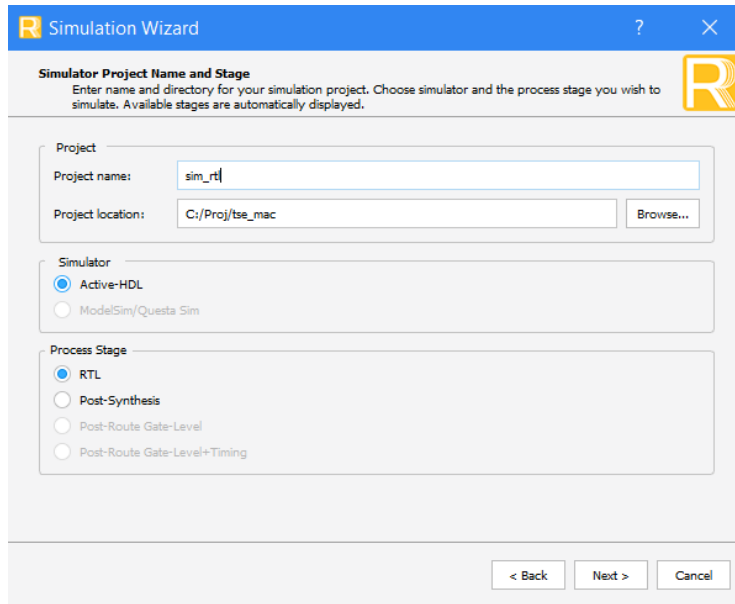

Figure 3-4. Simulation Wizard
1. Click the  button located on the **Toolbar** to initiate the **Simulation Wizard** shown in Figure 3-4.